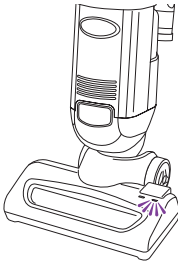

Fig. 5
- 1 When the vacuum nozzle head is firmly in place, twist the quick release cord holder to unwrap the power cord completely. Plug in the unit. The carpet light (on the left hand side of the floor nozzle when standing behind the unit) will begin to blink blue. (Fig. 5) The vacuum is in standby mode.